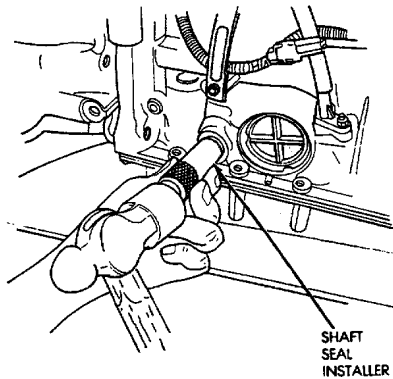

Fig. 24 Installing Manual Valve Shaft Seals
- (9) Inspect the manual valve shaft and sector. Replace either component if worn or damaged.
- (10) Coat replacement shaft seals with petroleum jelly and seat them in the case (Fig. 24).